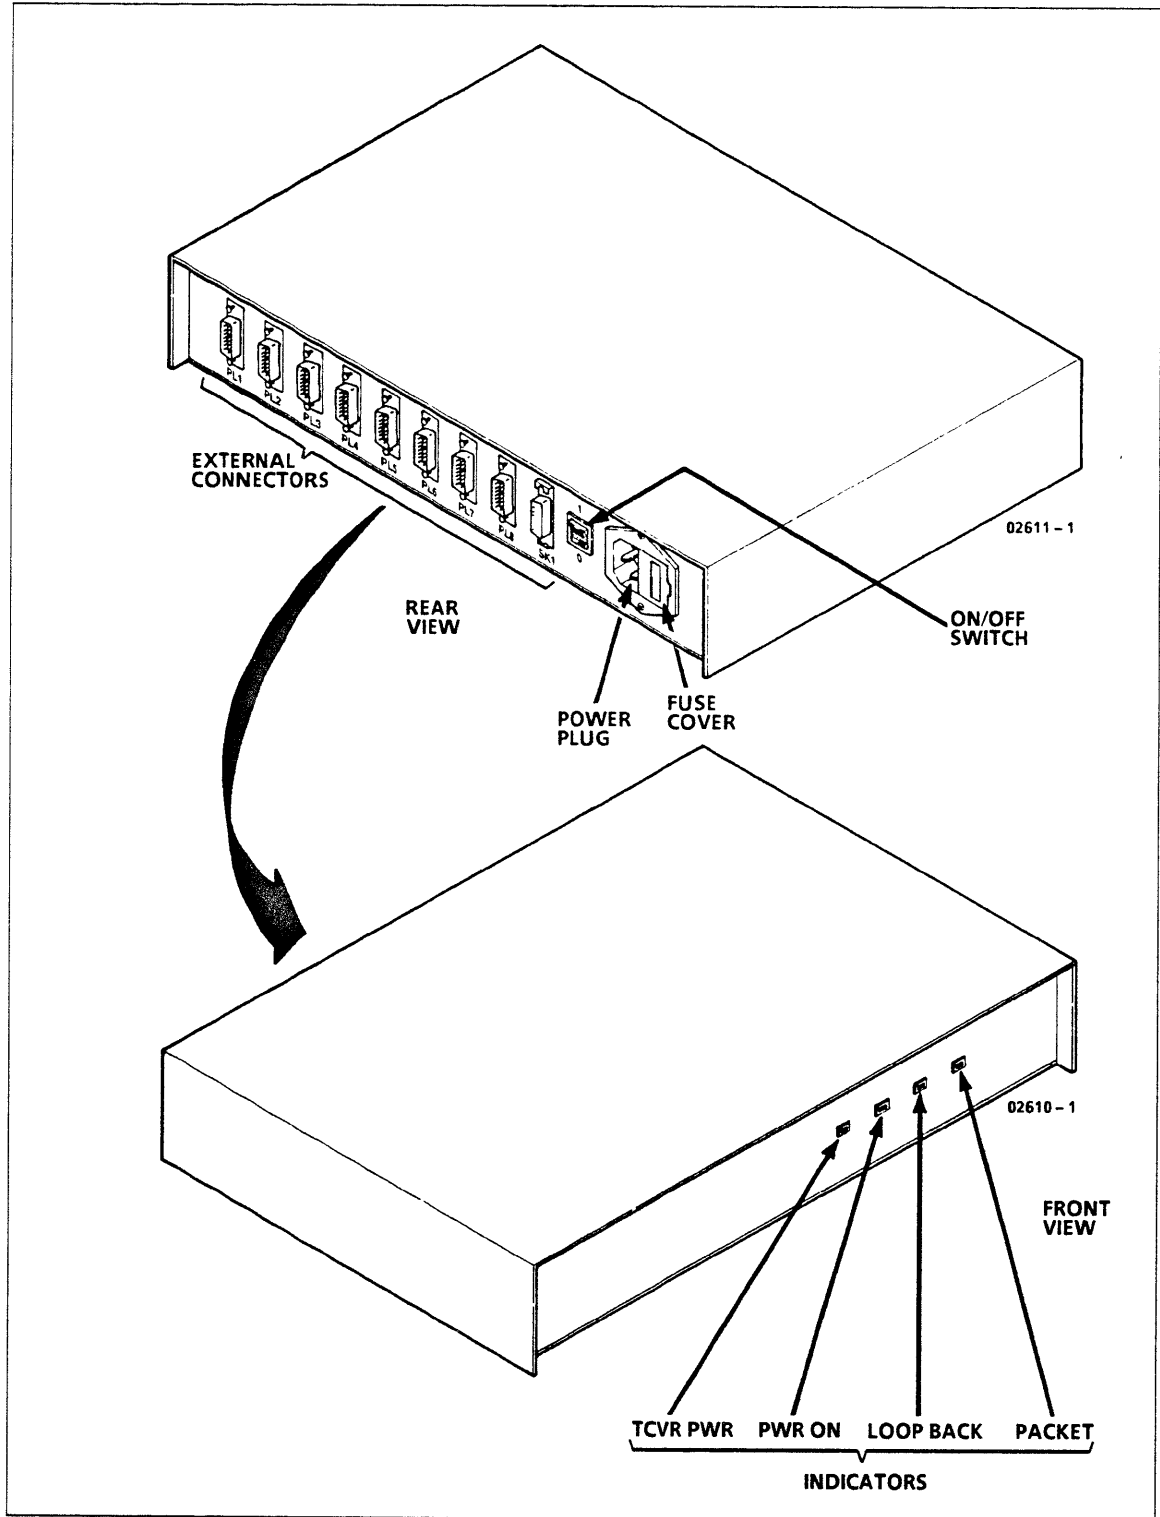

Figure 2-13. Multiplexer Connectors, Switches, and Indicators
5. Connect transceiver interface cable between transceiver and SK1 on multiplexer and lock it in place with the slide latches on cable connectors (figure 2-13).
8. Set Power switch on multiplexer rear panel to 1 (On) position (figure 2-13). Observe that PWR ON and TCVR PWR indicators, on front panel, light to show that both dc power supplies are operating. If indicators do not light, replace fuse (see step 1). If fuse fails repeatedly, replace the multiplexer.